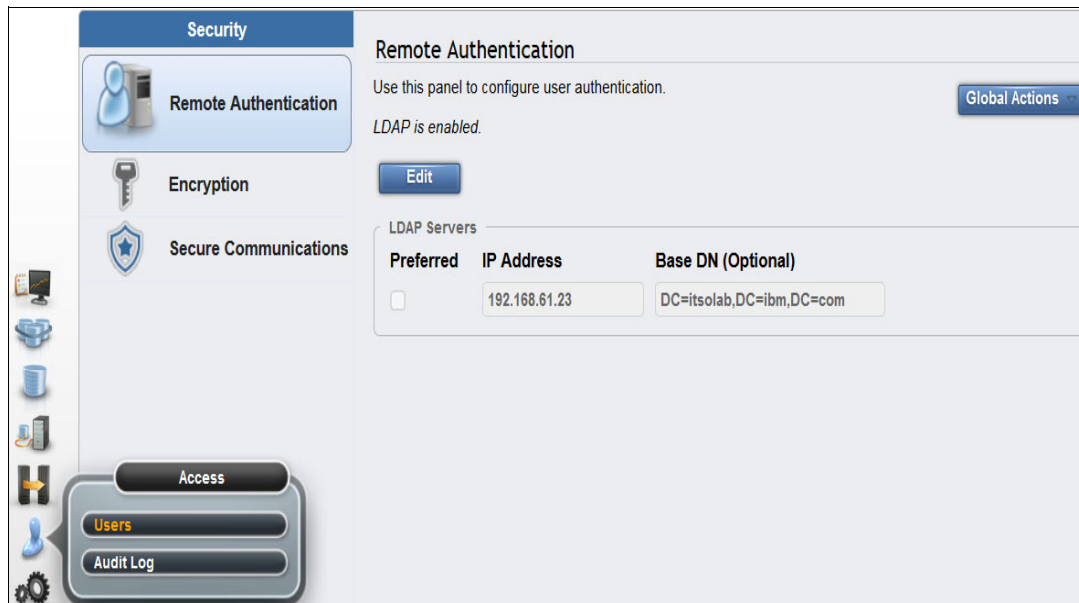

Figure 9-46 Select Users
1. Click **Access** → **Users** (Figure 9-46).